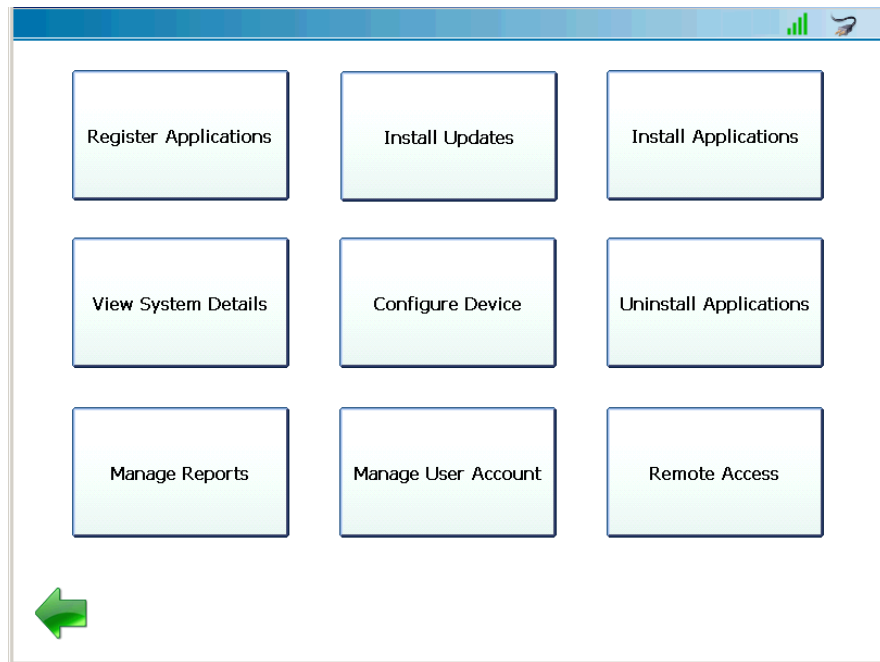

Figure 5.3 Admin Menu
- Touch **No** to return to the Admin Menu (Figure 5.3).